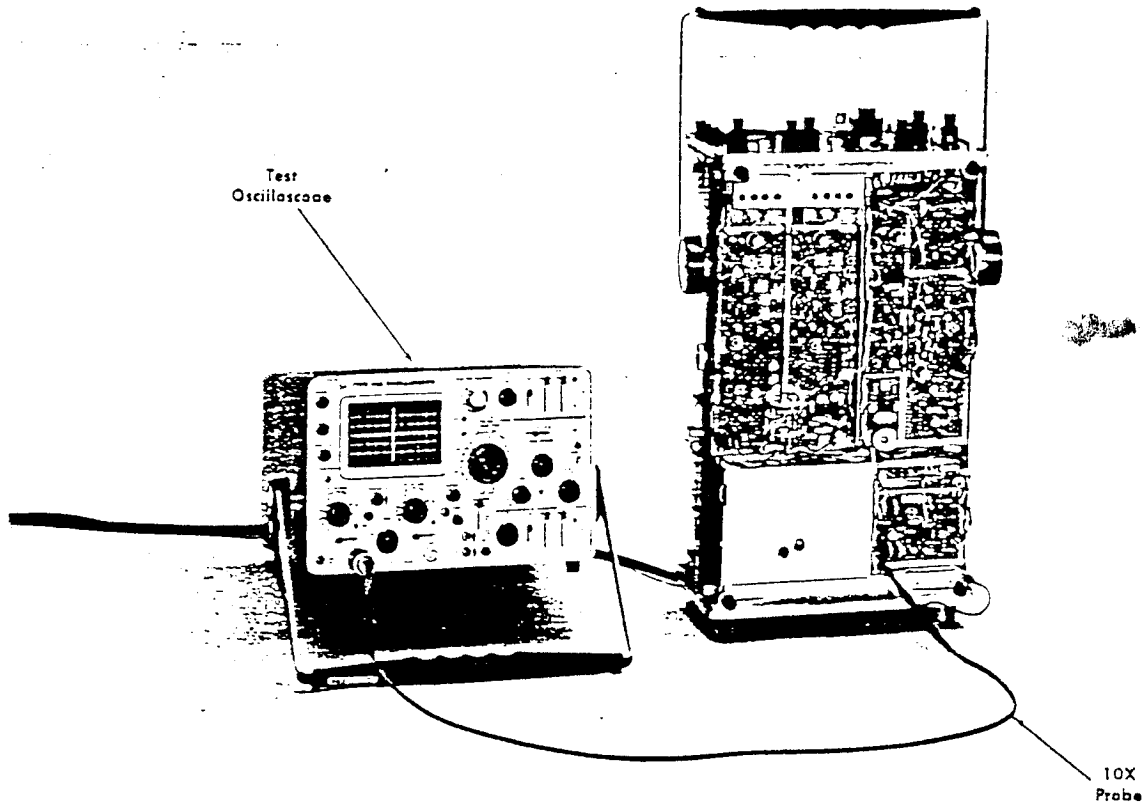

Fig. 6-11. Initial test equipment setup for Steps 7 and 8.
- a. Test equipment setup is shown in Fig. 6-11.